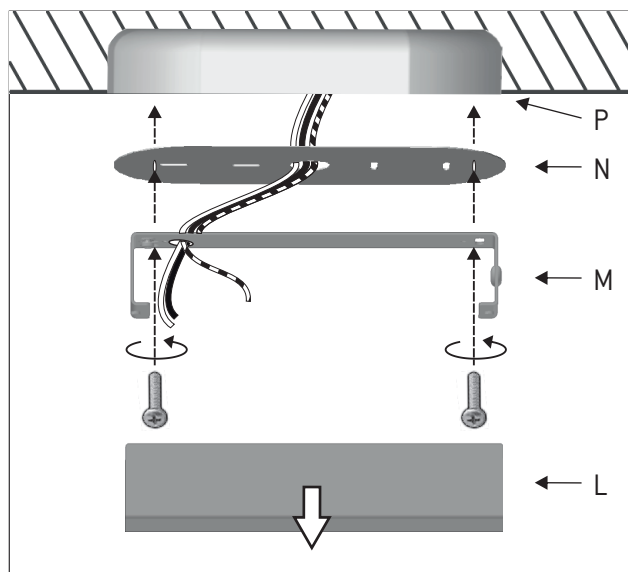

Figure 7
7 - Pull the canopy (L) down with force to remove the mounting bracket (M). Insert the main electrical cable through the central hole of the decorative disk (N) and through the mounting bracket (M). Fix them to the junction box (P). Figure 7.